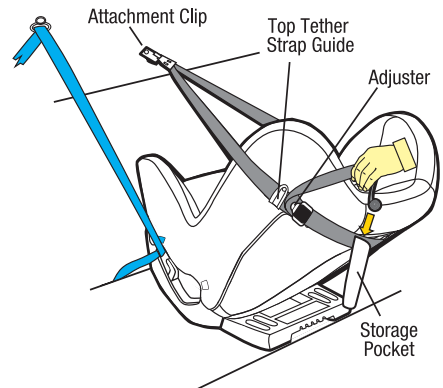

Figure 13
Step 12: Store any excess webbing, from the top tether strap, in the storage pocket provided on the restraint (refer Figure 13).
After correctly installing the restraint in your car, roll up and place any excess tether strap in the storage pocket provided (refer Figure 13).